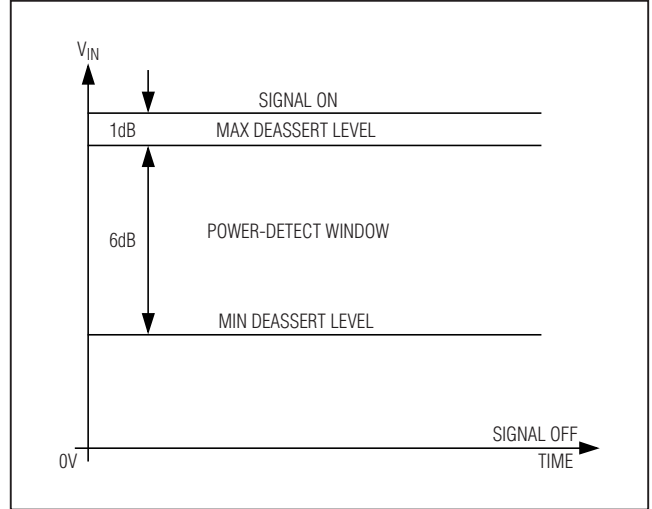

Figure 2. LOS Deassert Threshold Set 1dB Below the Minimum by Receiver Sensitivity (for Selected RTH)
- Note 8:** The signal at the input is switched between two amplitudes, Signal\_ON and Signal\_OFF, as shown in Figure 2.